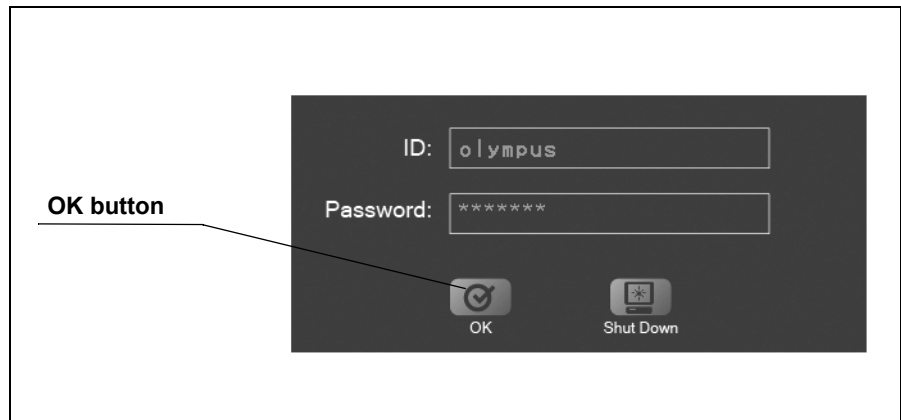

Figure 4.3
3. Click the [OK] button (see Figure 4.3).